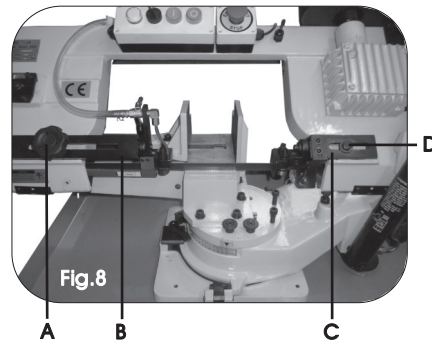

Fig.8
2. Loosen the knob (Fig.8,A), so that the left adjustable guide bracket (Fig.8,B) can be moved closer to your material.
3. Loosen the bolt (Fig.8,D) and slide the right adjustable guide bracket (Fig.8,C) closer to your material.
4. Once adjusted retighten the knob (A) and bolt (D).